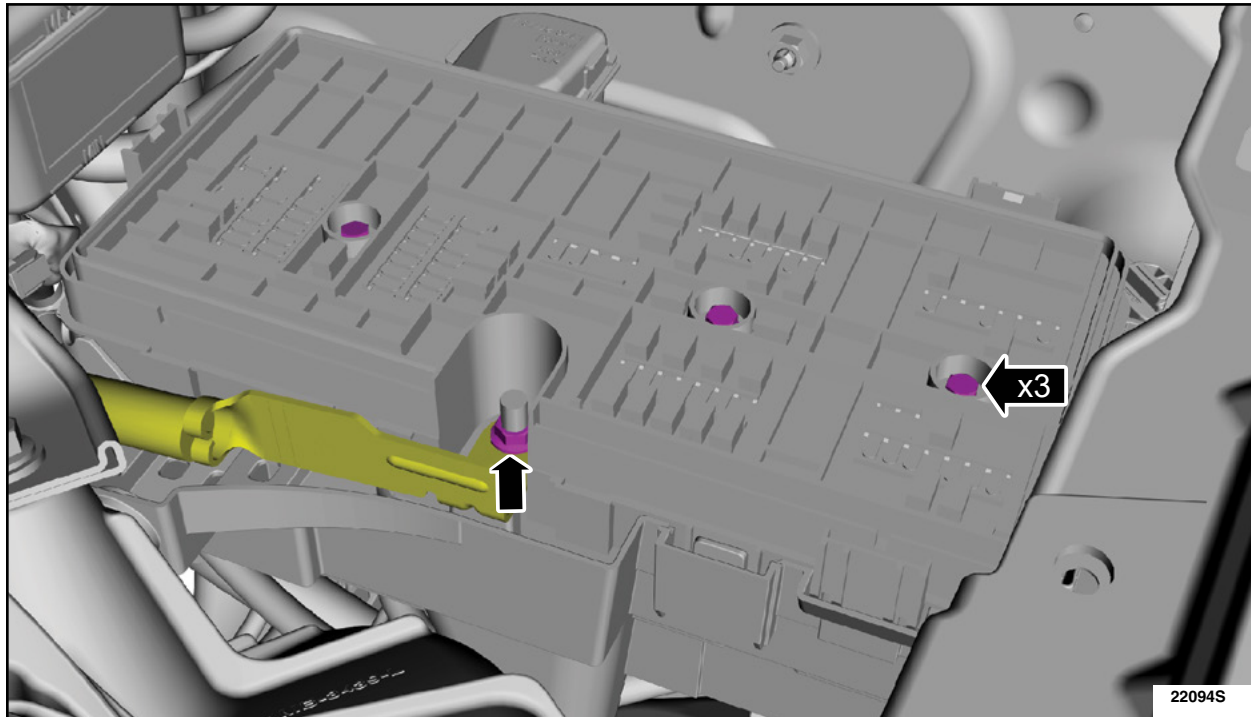

FIGURE 22
28. Tighten the three BCMC connector bolts. See Figure 22.
29. Position back the cable and install the nut. See Figure 22.